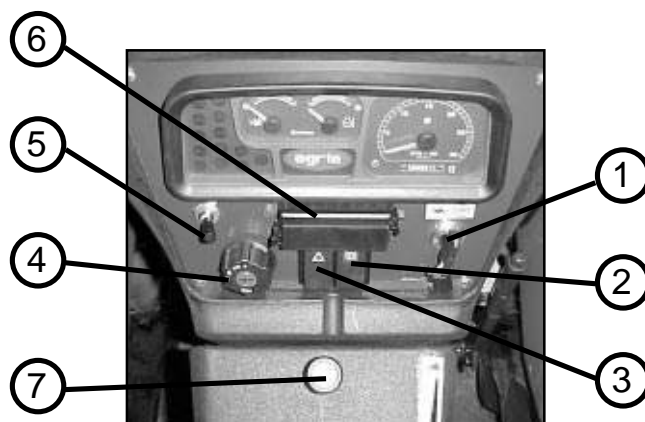

Fig. 21
1.- Ignition key (Fig. 21)
- 1) Let the engine in idling speed and pull the stop rod 7 (Fig. 21)